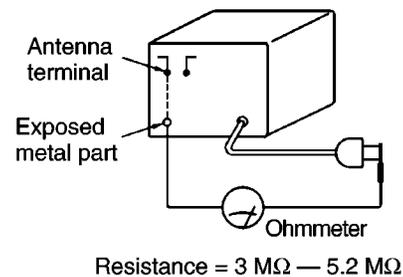
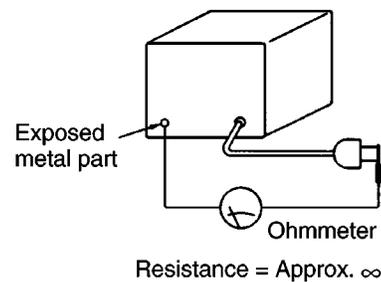

Fig. 1-1.
Fig. 1-2.
- Measure the resistance value with ohmmeter between the jumpered AC plug and each exposed metal cabinet parts, such as screw heads antenna, control shafts, handle brackets, etc.. Equipment with antenna terminals should read between 3 M Ω - 5.2 M Ω to all exposed parts. Refer to Fig. 1-1. Equipment without antenna terminals should read approximately infinity to all exposed parts. Refer to Fig. 1-2.